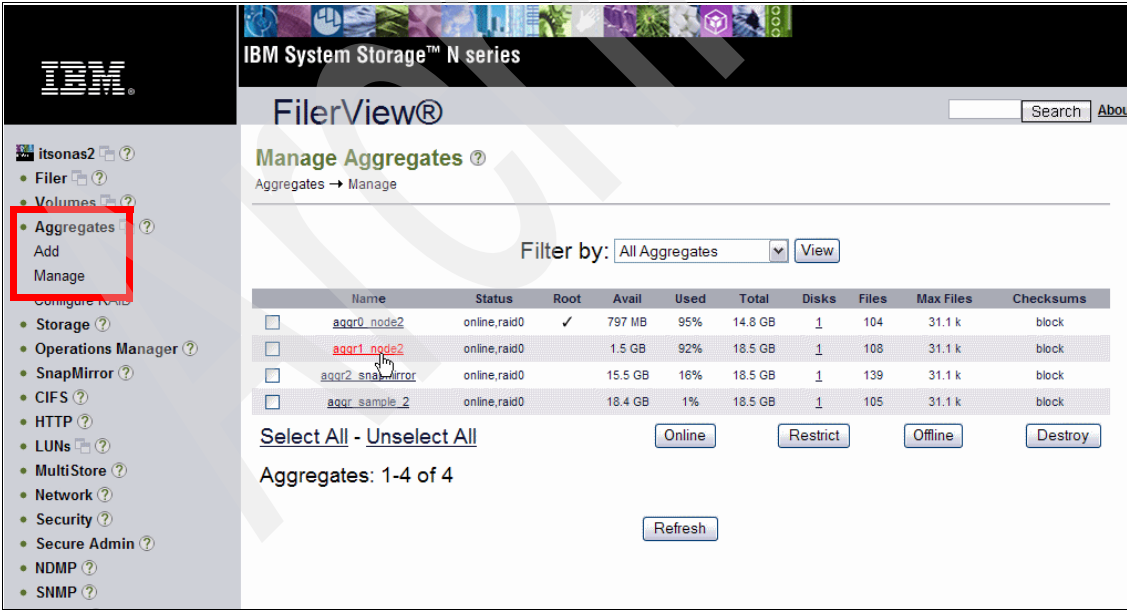

Figure 9-1 Aggregates / Manage
1. Click the name of the aggregate, as shown in Figure 9-1.